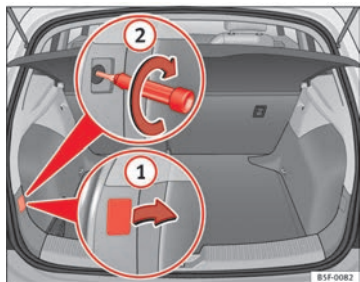

Fig. 143 Luggage compartment: Location of the bolt securing the tail light unit
- Remove the cover by prying the flat side of a screwdriver into the recess and remove the cover from the opening ⇒ Fig. 143 ①.
- Carefully loosen the screw located behind the cover with a screwdriver, turning it anti-clockwise (arrows) ⇒ Fig. 143 ②.